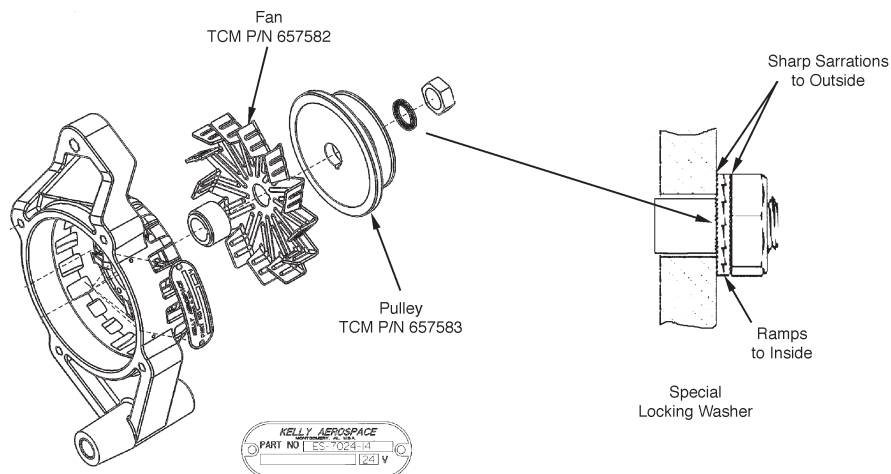

Figure 1 - Alternator Part Replacement
5. Install a new TCM P/N 657582 fan, and new TCM P/N 657583 pulley as shown in Figure 1. Use the existing pulley nut and the locking washer. Take care when removing the locking washer as it is a special device which has two pieces. The sharp serrations must face outward while the shallow ramp must face each other. Using the strap wrench per instruction 4 above, torque the pulley nut to 35 to 45 ft-lbs.